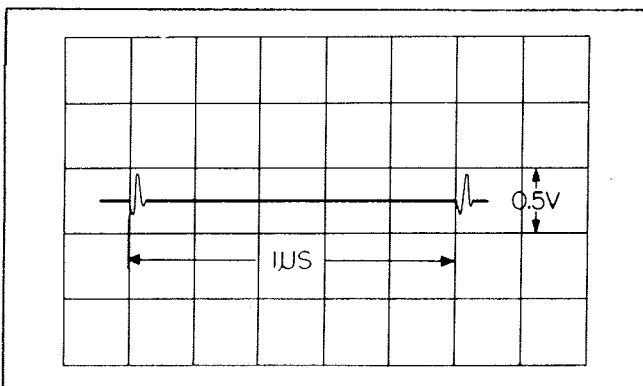

Figure 6.10 - Terminal E84 Waveform
d. Reconnect oscilloscope to terminal E84. The observed 1 MC spectrum waveform should resemble the one shown in figure 6.10.